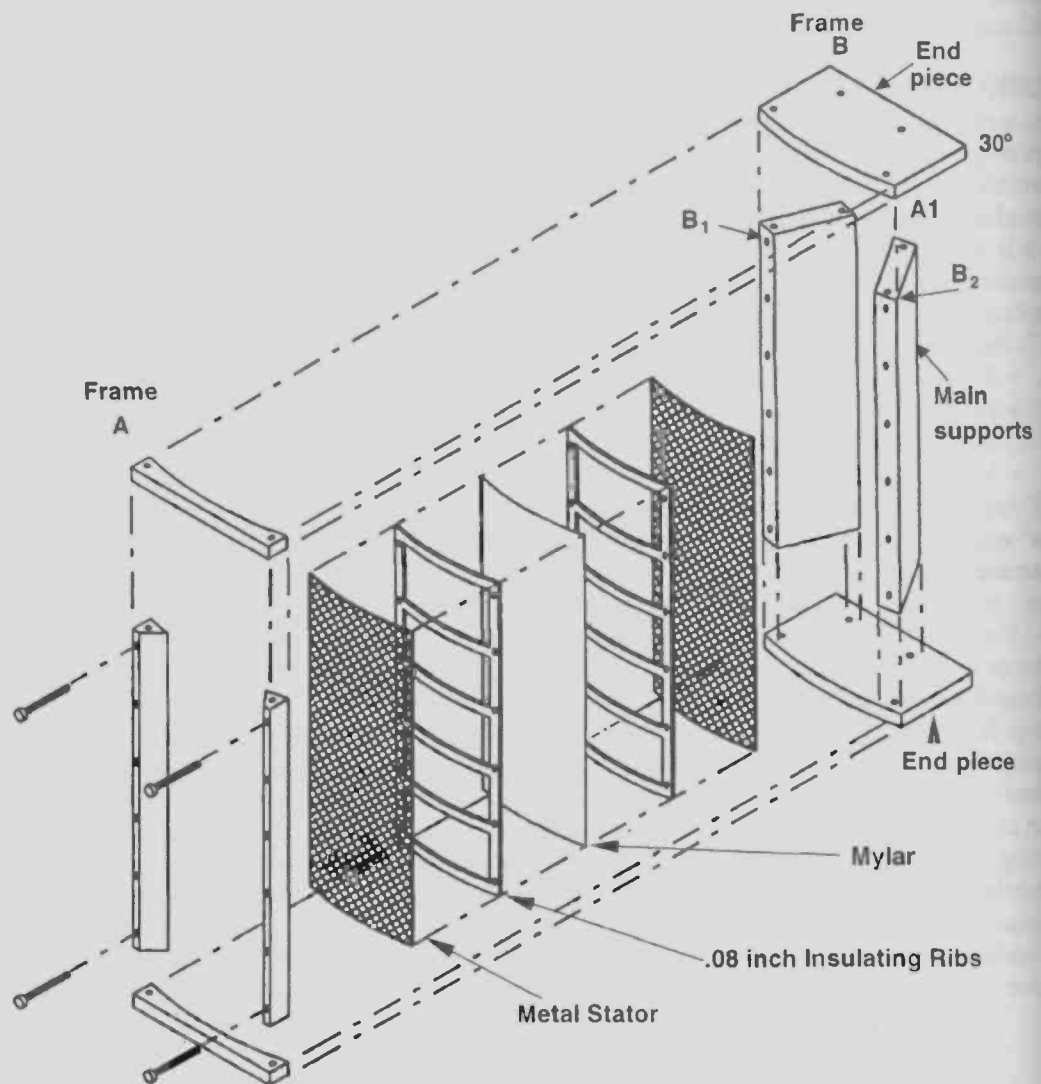
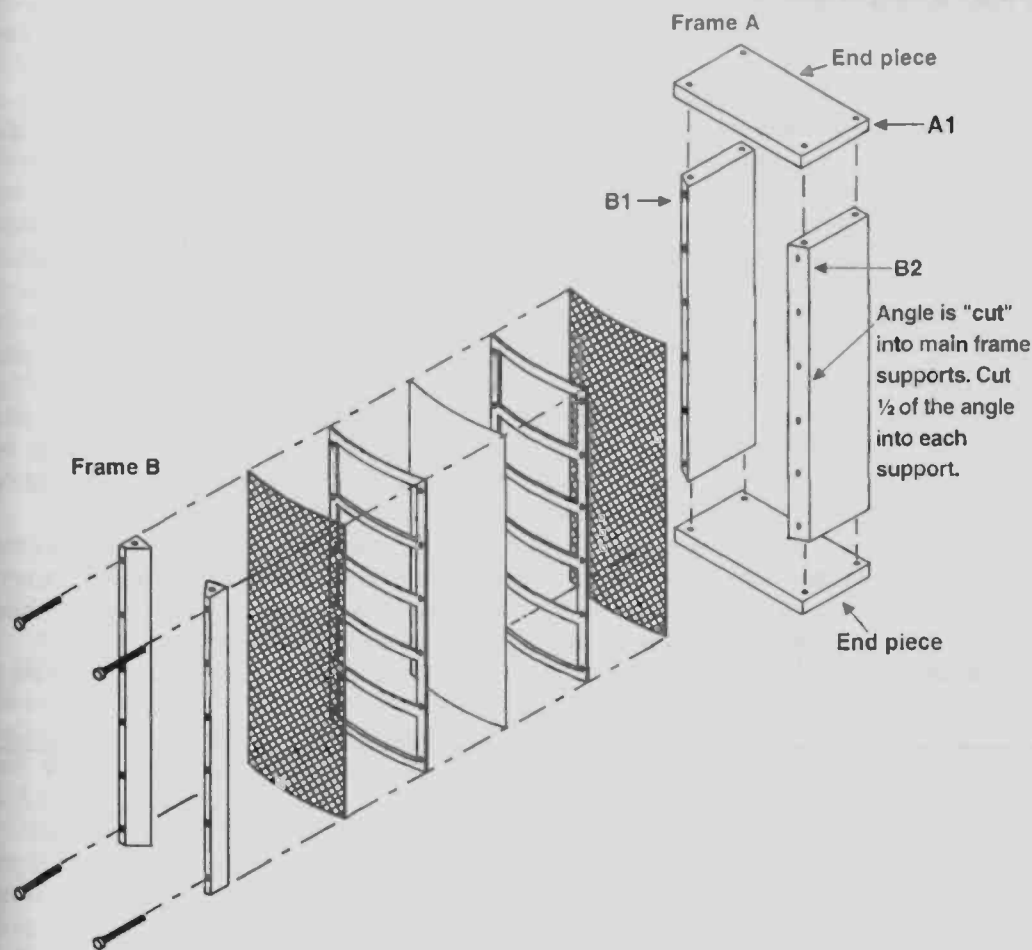
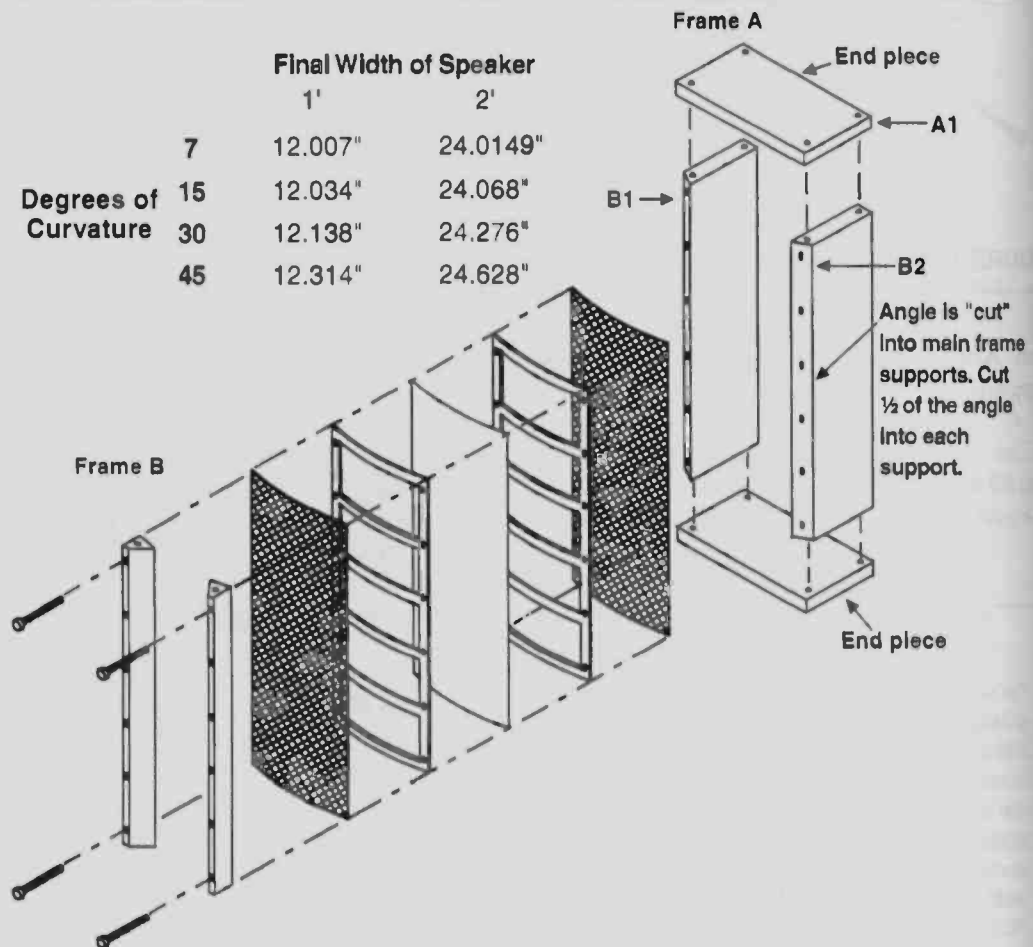

FIGURE 11-1: Support frame.
FIGURE 11-2: Alternate support frame.
FIGURE 11-3: Final speaker design.
**BUILDING SUPPORTING FRAMES.** You must choose the style of frame you wish to build. I built the frame pictured in *Fig. 11-1* for a speaker with 30° of arc.
The frame in *Fig. 11-2* should work just as well, and if you have access to a table saw, you can cut the angle right into the frame. The angle cut into each support equals one-half of the degree of curvature desired (for 30° of curvature, cut a 15° angle along the length of each main support of the frame).
I used a jig saw to cut the curve of the speaker into the base and top of the frame in *Fig. 11-1*. I don't think it's necessary, and I've omitted it from *Fig. 11-2*.
I cut the outside edges of Frame A at a 45° angle in an attempt to eliminate the sharp transition at the edge of the speaker. The main supports in Frame B in *Fig. 11-1* were made from 1¼" particleboard 7-inches wide.
designs) equal to the width of the stator, less a fraction of an inch to compensate for the stator's curve. To help you calculate the necessary dimensions, see the table in Fig. 11-3 or the formula in Fig. 11-4.
If you know your way around a carpentry shop (or have a friend who does), please feel free to ignore the following directions on how I assembled the supporting frame. I have no doubt there are easier ways to do it. For example, give Fig. 11-1 or 11-2 to your local carpentry shop with the appropriate dimensions and have them do it. (OK, this is a book on amateur construction, but sometimes it pays to have someone with the right tools and knowledge do the job.)
For the design in Fig. 11-1, I used plenty of glue and two wooden dowel rods for the joints in Frame B. In Frame A, I used glue, one dowel rod, and a screw in each joint.
The assembly of Frame B is the same for either Fig. 11-1 or 11-2. Carefully measure and outline the position of each support on both the bottom and top end pieces of the frame. Line up each support with one end piece, and drill holes for the screws and dowel rod(s). Secure it in position.
tom. Also, check the angle made by the two supports, if you are building the frame in Fig. 11-1.
the completed frame. Once you're satisfied all is well, attach the last piece. Assemble Frame A in Fig. 11-2 with the same degree of accuracy, by resting the end pieces and supports on Frame B and drilling holes for the screws and dowel rod. In the Fig. 11-2 version, place Frame A over Frame B and drill  $\frac{1}{4}$ " holes about 6-inches apart on both sides. Drill from the front of Frame A through Frame B.
After you drill each hole, pass a  $\frac{3}{16}$ "  $\times$  (needed length) bolt through the hole. This will ensure that the next hole you drill will be aligned with the previous hole. The procedure is the same in the Fig. 11-2 version, except you may need to use greater care in drilling the holes to ensure that they pass through the center of both Frame A and Frame B.
Be sure to make provision for connecting the polarizing power supply to the diaphragm. In this design, the coated side of the diaphragm is on the outside of the curve. You may make the connection in the Fig. 11-2 frame on the bottom curved spacer, if the spacer is wide enough to extend at least  $\frac{1}{2}$ " beyond the width of the particleboard. Please refer to Roger's methods of making a diaphragm contact for more ideas.
The angle formed by the two supports (A1 in Fig. 11-1) sets the degree of curvature for the frame in Fig. 11-2. Cut the curve into both the top and bottom end pieces.
The curvature in the frame in Fig. 11-2 is cut into the supporting frames (A1 in Fig. 11-3). I've already given you the math needed to figure out the width of the stators and angle A1. Before cutting metal, it might be a good idea to review your calculations.
to make the electrical connection to the stators. In building the speaker in Fig. 11-1, I left tabs on one side near the base.
Place a new layer of Saran Wrap over the Frame B metal, and position the Frame A metal, being sure that the 1/4" holes line up. Don't use nails; just apply a generous amount of epoxy to Frame A and position the whole frame (Fig. 11-1) or the separate pieces (Fig. 11-2) on the metal.
used 1" particleboard and built the Fig. 11-2 frame, the spacers should be 1-inch wide. The long spacers on the outside edges should extend the full length of the frame. The shorter "curved" spacers should just fit inside the long outside-edge spacers.
If you are building the *Fig. 11-2* frame, pull the masking tape tight and attach it to the bottom or top end pieces. The *Fig. 11-3* frame may require that you temporarily position a piece of wood between the end piece and the unsupported curved metal. This will permit you to apply sufficient force to the Mylar